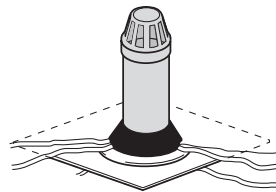

Fig.21c Steps 4-6
**Step 5** – Place second layer of felt over baseplate up to the cone. Trim accordingly (Fig.21c)